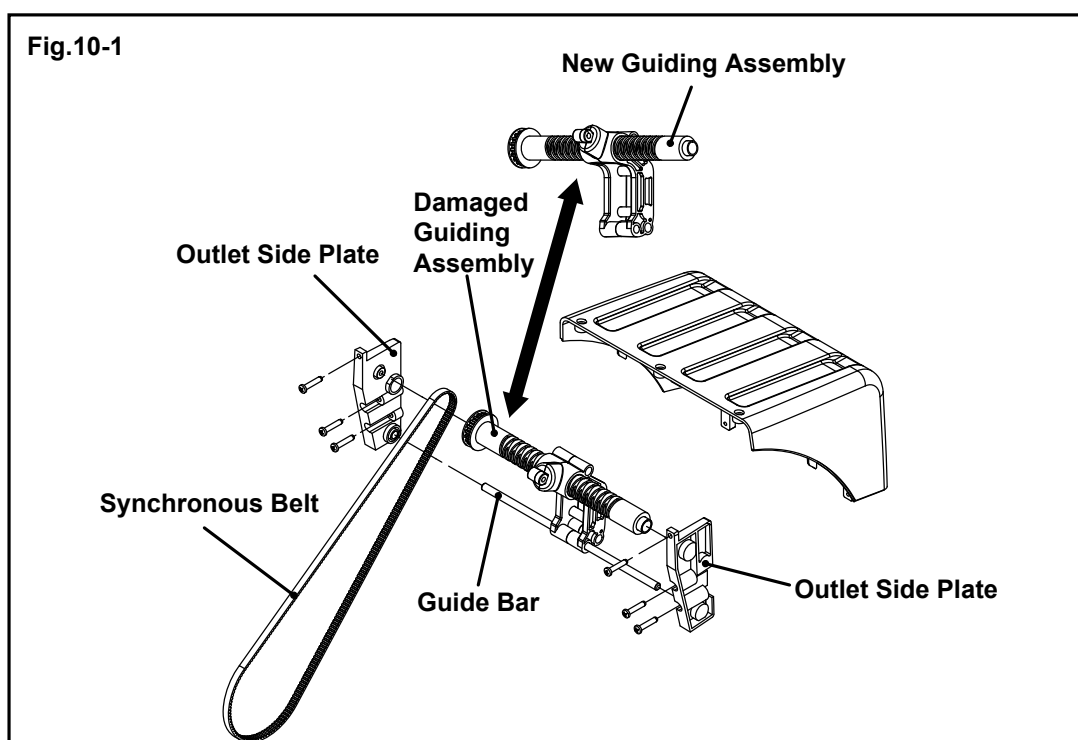

Fig.10-2
1. It is essential to ensure that the position of the new hose guiding system bracket matches the position of the old guiding system bracket, and that the movement direction of the bracket is consistent when the sorting shaft rotates (as shown in the figure). If they differ, adjustments must be made to align them. **(Fig.10-2)**